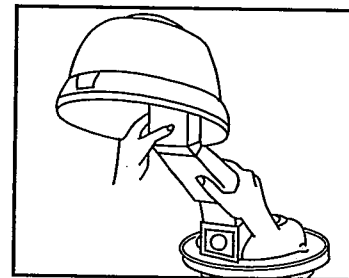

Figure 3
4. To adjust the Hood to the most comfortable position, place one hand on the Adjustable Arm near the Dryer Base and the other hand on the Adjustable Arm near the Hood and pull up gently until it is in desired position (Fig. 3).